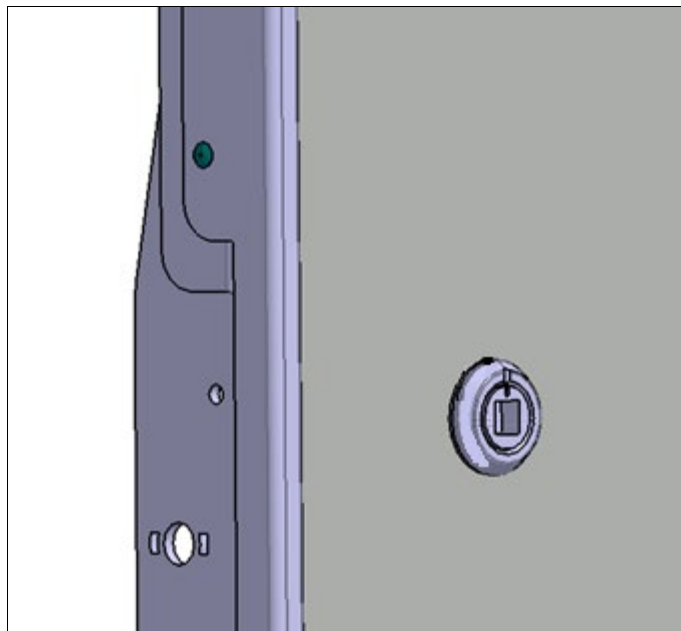

FIG.8 BARREL REINSERTED IN CYLINDER
8. Reinsert the barrel in the cylinder (notch pointing up); wipe excess grease (Fig.8).